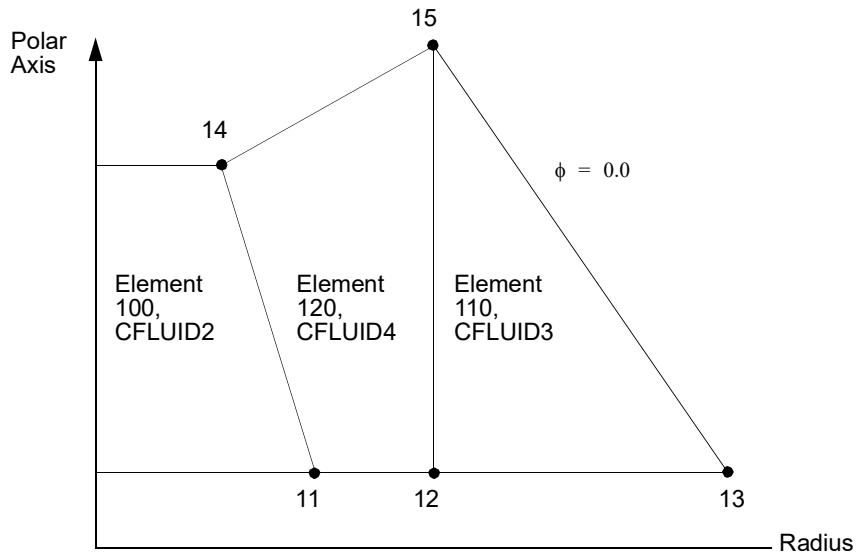

Figure 9-26 CFLUIDi Examples
3. The volume defined by IDF_i is a body of revolution about the polar axis of the fluid coordinate system defined by AXIF. CFLUID2 defines a thick disk with IDF1 and IDF2 defining the outer corners as shown in Figure 9-26: